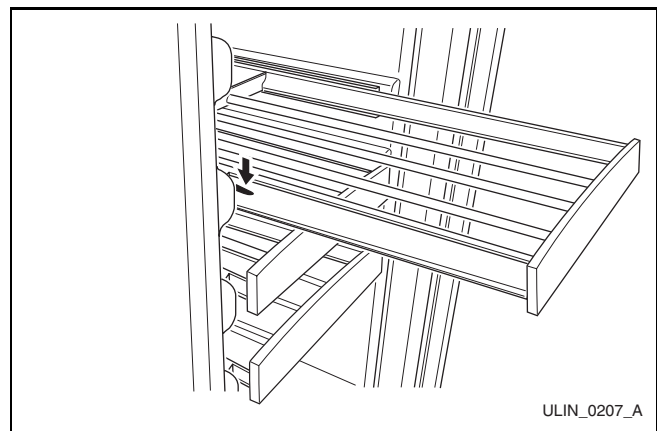

Figure 24
- Press the left rack release lever (**Figure 24**) down, and at the same time, lift the corresponding right rack release lever up, and pull the rack out until it is free of the tracks and the cabinet.